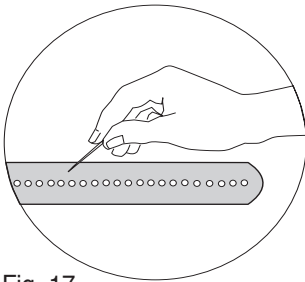
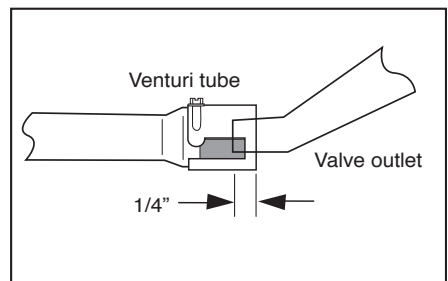

Fig. 17
Fig. 21
- Reinstall the burners properly over the valves (see Fig. 21). Use a wire brush or toothpick to clean the ports all around the sides of the burner (see Fig. 17). It is normal for some surface rust to appear on the burner. Severe rusting can enlarge the gas ports, however, which could cause changes in the Grill's performance.
Use a wire brush to clean all ports on the sides of the burner (see Fig. 17).
If burners are removed for cleaning or adjustment, always confirm that they have been reinstalled correctly over the valve outlets (see Fig. 21). The valves should extend into the burner venturis 1/4" minimum.